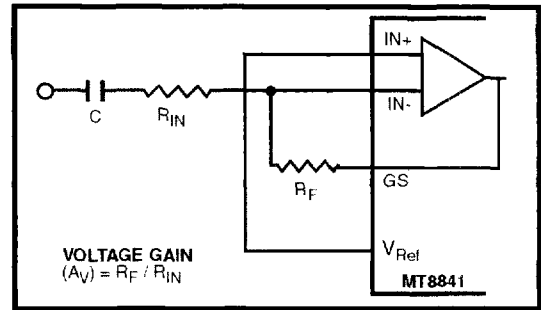

Figure 4 - Single-Ended Input Configuration
The input arrangement of the MT8841 provides an operational amplifier, as well as a bias source (V_{Ref}) which is used to bias the inputs at $V_{\text{DD}/2}$. Provision is made for connection of a feedback resistor to the op-amp output (GS) for adjustment of gain. In a single-ended configuration, the input pins are connected as shown in Figure 4.